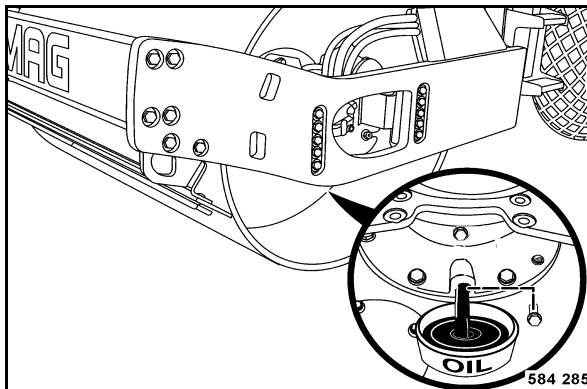

Fig. 171
- Move the drum, until the drain and filler plug (Fig. 171) is in lowest position.